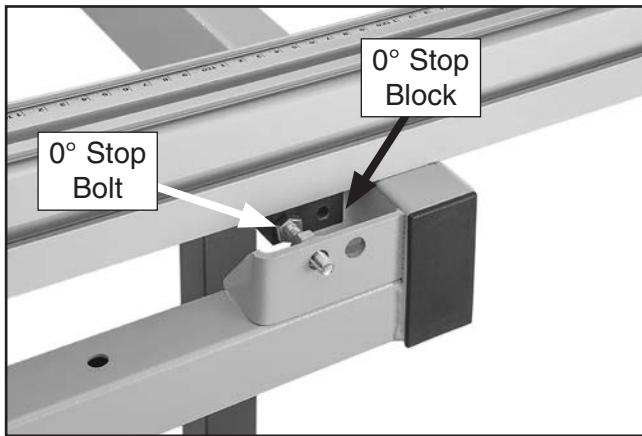

Figure 102. Stop block against 0° stop bolt.
1. Position crosscut fence on crosscut table according to cutting operation (see **Setting Up Crosscut Fence on Page 49**) and rotate crosscut fence until 0° stop block touches 0° stop bolt (see **Figure 102**).